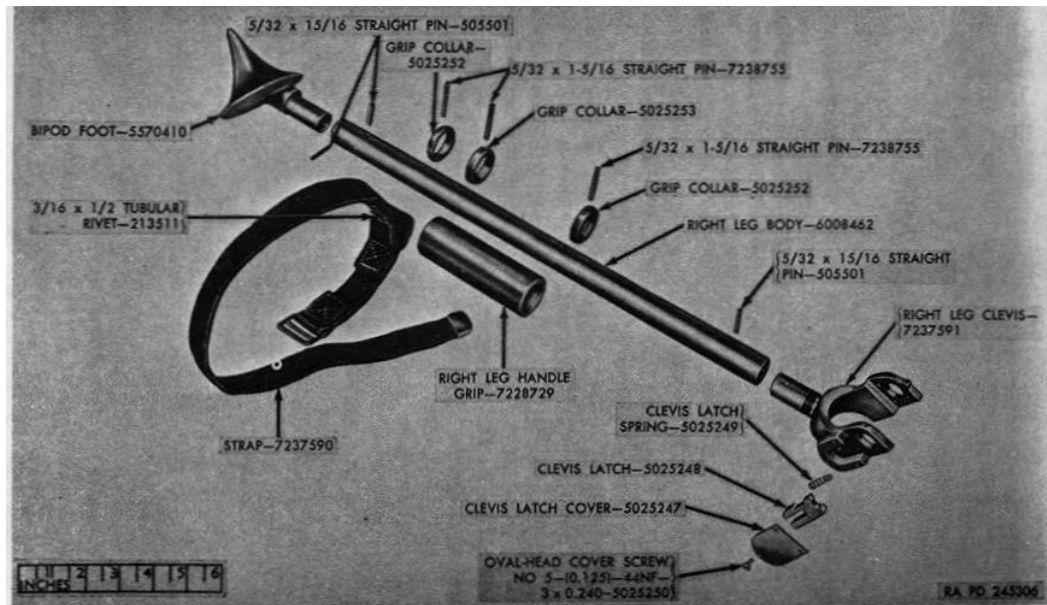

Figure 20. Right leg assembly 5207663-exploded view.
a. To separate right and left leg from elevating mechanism group, remove pin from threaded end of connector pivot (G), unscrew connector pivot nut (H), and remove connector pivot. Unscrew the six clevis bearing screws (D) and pry out the two clevis bearings (E). Mark to facilitate assembly.
b. Remove both leg assemblies (F and K) from elevating mechanism group (J) by pulling apart.
c. To disassemble right leg assembly (fig. 20), proceed as outlined in (1) through (7) below.
- (1) Drive out straight pin that passes through right leg clevis and leg body. Unscrew right leg clevis, marking beforehand to facilitate assembly.
- (2) Unscrew the three oval-head cover screws and remove clevis latch cover.
- (3) Lift out clevis latch and clevis latch spring. The latch must be lifted straight up because its lateral movement is limited by a pin. The latch spring is slightly compressed when assembled and care must be exercised to prevent the spring from jumping out.
- (4) Remove bipod foot by driving out the two straight pins, heat to unsolder, and drive off.
e. With the exception of the left and right leg bodies, all parts of the leg group shown in figures 20 and 21 are replaced by field maintenance, if cracked, broken, or otherwise unserviceable. If a leg body is unserviceable, the whole leg assembly is replaced by depot maintenance.
a. To assemble left leg assembly, proceed as outlined in (1) through (9) below.
- (2) Thread leg adjusting nut (A) (short thread leading) on left leg body as far as it will go, screw adjusting nut ring (V) on leg adjusting nut until holes aline and lock with oval-head screw (No. 8 (0.164)-36NF-3 x 0.21) (F).
- (3) Install adjusting nut spring washer (B), adjusting nut spring (C), and other nut spring washer (D) on left leg body.
- (4) Install sliding sleeve (E) (flange leading) on left leg body.
- (5) Slide adjusting nut locking ring (G) over sliding sleeve (E), screw it on leg adjusting nut (A) until holes aline, and lock with oval-head screw (No. 8 (0.164)-36NF-3 x 0.21) (F).
- (6) Slide locking sleeve (H) (smooth end leading) over sliding sleeve (E) and screw sliding bracket (S) into the locking sleeve.
- (7) Install clevis latch (L) and clevis latch spring (M), making certain clevis is held in place by 1/16 x 5/16 straight pin (N) in clevis.
- (8) Install clevis latch cover (K) and secure with three latch cover screws (oval-hd No. 5 (0.125)-44NF-3 x 0.240) (J).
- (9) Screw left leg clevis (P) into left leg body (U) until holes aline and drive in 5/32 x 15/16 straight pin (T).
b. To assemble right leg assembly (fig. 20), proceed as outlined in (1) through (8) below.
- (1) If bipod foot has been removed, install bipod foot in end of right leg body and secure with two new 5/32 x 15/16 straight pins.
- (2) Install lower grip collar and drive in 5/32 x 15/16 straight pin.
- (3) Install right leg strap on right leg body.
- (4) Install center grip collar on right leg body, drive in the 5/32 x 15/16 straight pin, and slide on right leg handle grip.
- (5) Install upper grip collar and drive in the 5/32 x 15/16 straight pin.
- (6) Install clevis latch and clevis latch spring, making certain clevis is held in place by straight pin in clevis.
- (7) Install clevis latch cover and secure with three oval-head cover screws (No. 5 (0.125)-44NF-3 x 0.240).
- (8) Screw right leg clevis into right leg body until holes aline and drive in 5/32 x 15/16 straight pin.